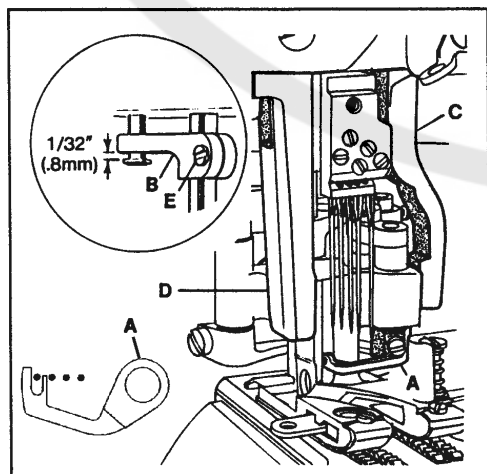

FIG. 20
Remove the presser bar regulating screw and the presser spring. Raise the needle bar to its highest position and remove the retainer. As the foot is slipped under the needles, swing the upper knife into the opening on the right side of the foot and slide the linkage onto the hook driving sleeve. Insert the presser bar through the linkage and into the presser foot shank. Tighten presser foot screw. With the presser bar inserted properly into the presser foot, position the foot left to right so the finger of cover thread carrier (A, Fig. 20) is between the first and second needles. Set presser bar guide (B, Fig. 20 Inset) so foot will not move. Set right presser foot guide (C) and left presser foot guide (D) to maintain setting. Loosen presser bar guide screw (E Fig. 20 Inset) and check to see that foot has vertical freedom with no right to left play, no bind. Put the needle bar in its lowest position, and set $1/32$ " (0.8mm) above head of presser bar guide stud. Tighten presser bar guide screw (E).
Turn the handwheel in operating direction until link (A, Fig. 20) has traveled fully to the front. There must be a $1/64"$ (0.4mm) clearance between link (A) and the back of needle bar (B) when link (A) starts to jackknife. Loosen screw (C) and rotate driving sleeve (D) to position link (A). Tighten screw (C).